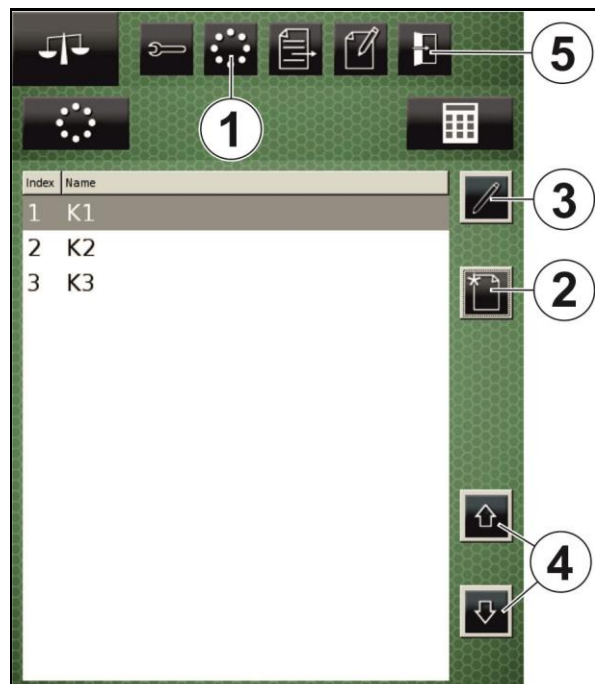

Fig. 182
6. Press the "Exit menu" key (Fig. 182/5) to call up the basic configuration of the terminal.